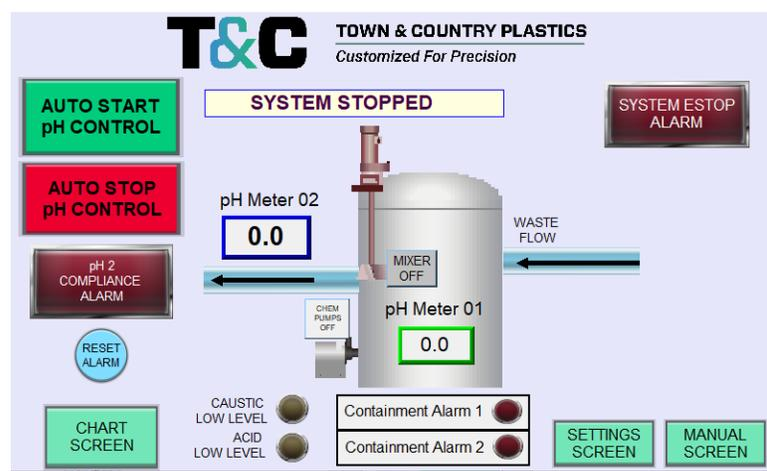

Figure 8
- 4.8.6. System will power up and PLC will initialize. This will take a few minutes to fully initialize. Upon completion you should see appropriate values populate the pH fields. (Figure 8)